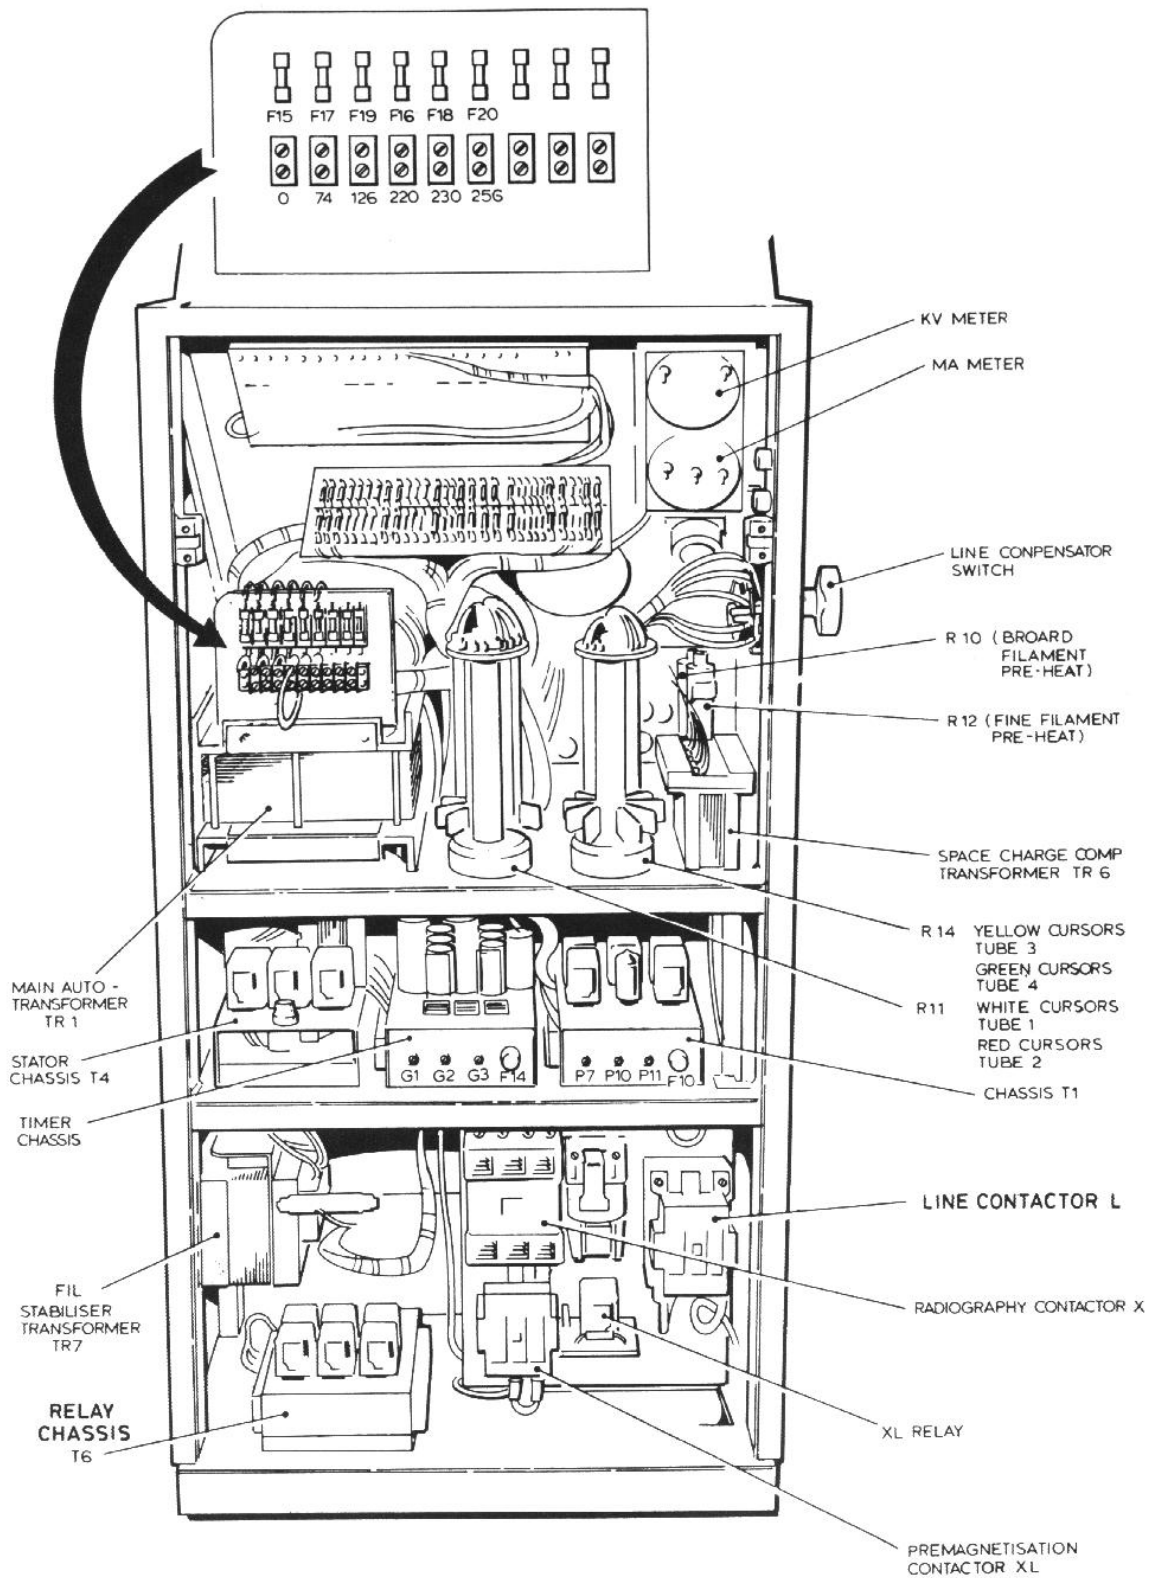

Fig.27 Control Console Rear View
- B The Tube Filament Drive Adjusting Resistances are illustrated on page 57, Fig 27.
- C Adjustment facilities are available on the secondary of Space Charge Compensation Transformer TR6, illustrated on page 57, Fig 27.